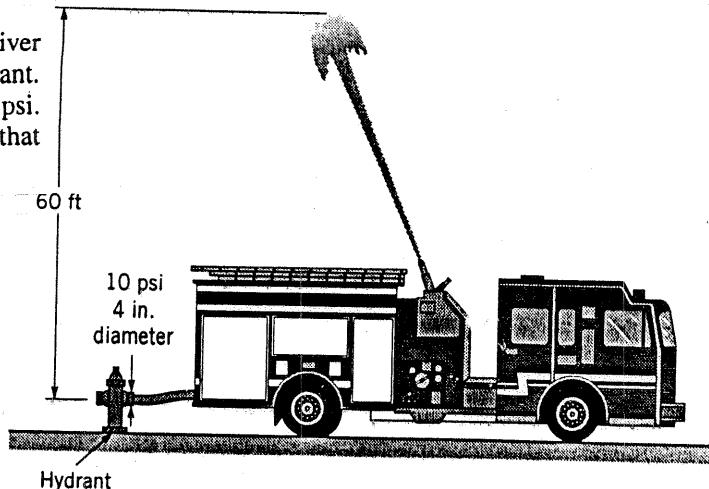

FIGURE P5.107
- 5.107 The pumper truck shown in Fig. P5.107 is to deliver $1.5 \text{ ft}^3/\text{s}$ to a maximum elevation of 60 ft above the hydrant. The pressure at the 4-in. diameter outlet of the hydrant is 10 psi. If head losses are negligibly small, determine the power that the pump must add to the water.